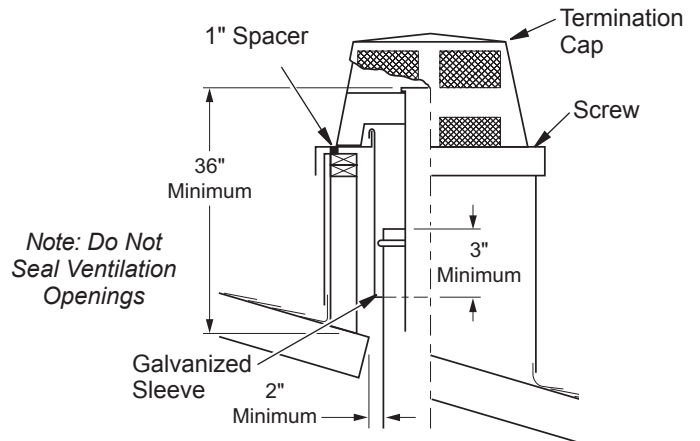

Figure 3 - Installing Termination Cap
- Place galvanized sleeve through hole in flashing and around last section of chimney (see Figure 3).